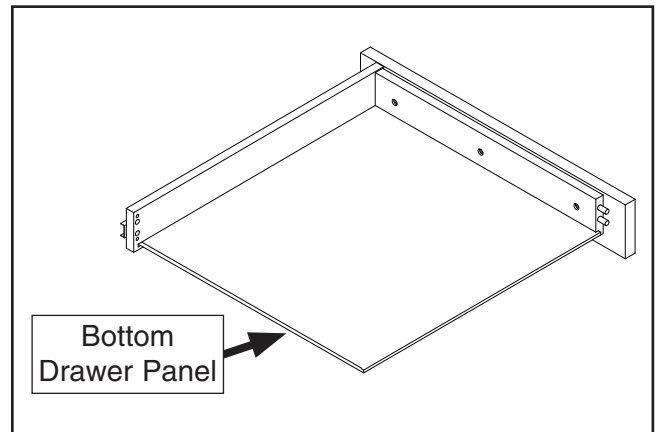

Figure 5. Drawer panel bottom inserted into dados.
3. Slide bottom drawer panel into right and front panel dados (see **Figure 5**).